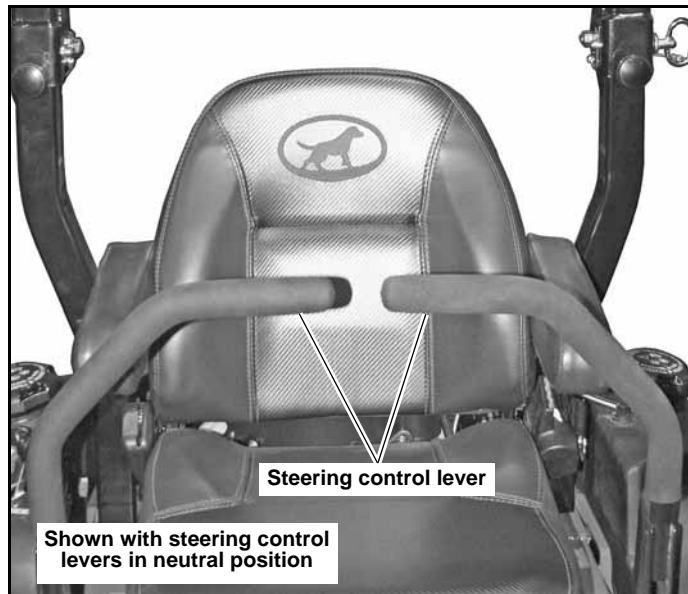
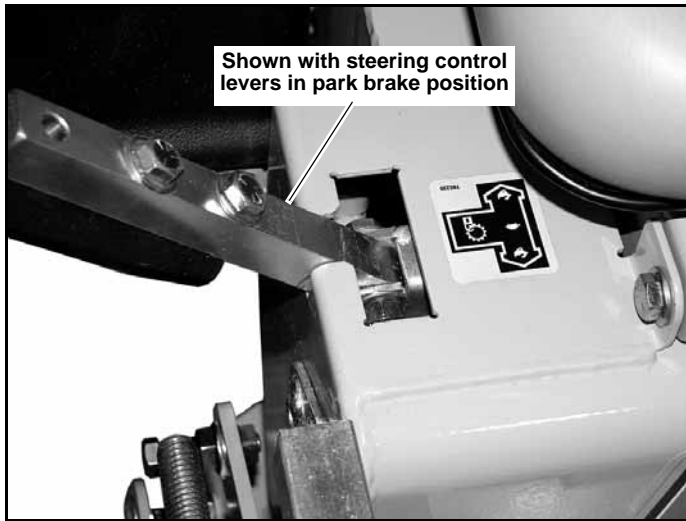

Figure 3-2
Figure 3-3
A. Steering control levers (Figure 3-2 & Figure 3-3) — these levers control the mower's speed, direction, stopping, and park brake. These levers are used to steer, accelerate, decelerate and change direction. When the steering control levers are in the park brake position the mower will not move when the engine is on and the drive pumps are operating.